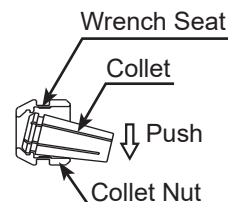

Fig. 22
- (2) The collet and collet nut are held together by a groove in the collet and a frange in the collet nut. To remove the collet, hold the collet nut in one hand and push diagonally down on the collet. The collet should be released (Fig. 22).
- (3) Install the new collet in the collet nut by positioning the collet in the collet nut and pressing down on a flat surface. (Fig. 22)